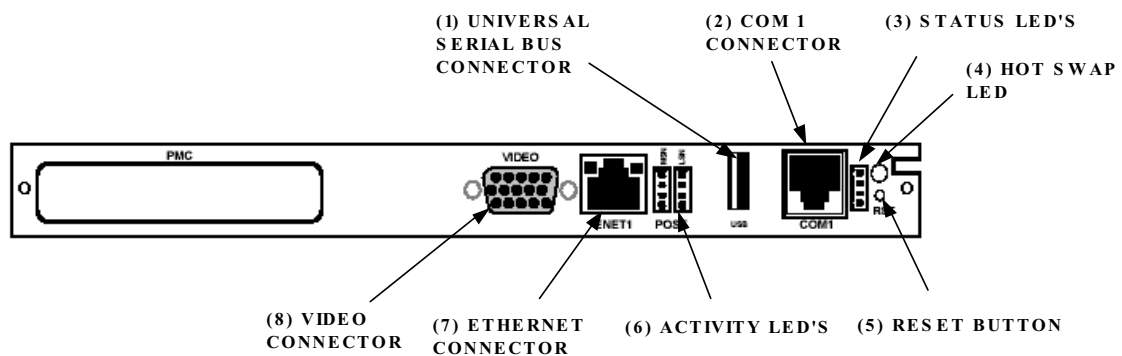

Figure 2-12. CPU Front Panel
There is one Hubmaster (HM) CPU per system. All CPUs at the Hub, with the exception of the Hubmaster CPU, are Slave CPUs. The CPU used in the RAN is also a Slave CPU to the Hubmaster CPU. The CPU is shown in Figure 2-12. The references for the CPU are shown in Table 2-7.